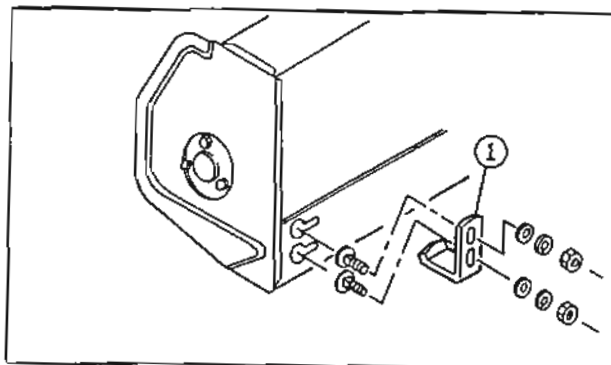

FIGURE 10
- a) Insert two 5/16" x 1" carriage bolts through each skid shoe (fig.10, item 1) from inside the bend. Place a flatwasher, lockwasher and nut loosely on each bolt and place the bolt heads through the round holes in the outer ends of the bottom angle of the snowblower body. Slide the square shank portion of the bolt head into the slot and tighten (see page 37 for Torque Specification Table).